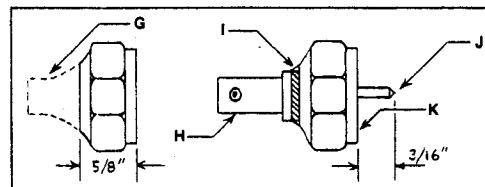
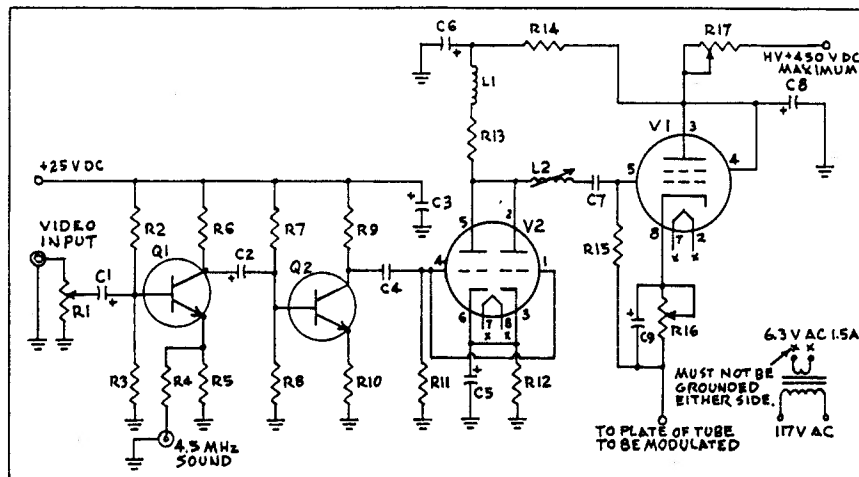

Fig 2-COAXIAL FITTING DETAILS
Fig 1-SCHEMATIC DIAGRAM OF THE VIDEO MODULATOR
The next step is to obtain or make a coaxial fitting (see Fig 2) that will be accepted by the transmitter cavity output. This item can be made from a half-inch flared fitting used for copper water pipe. Such a fitting can be purchased from most hardware or plumbing stores. If your APX-6 is not modified, follow the instructions of your choice. The best way to cut the transmitter plunger is not to remove it from the gears, but run it all the way out and cut the plunger with a plumber's tubing cutter. (Submitted by John, WABE0Y.)
- (NOTE: Fig 1 and Fig 2 are not drawn to scale.)